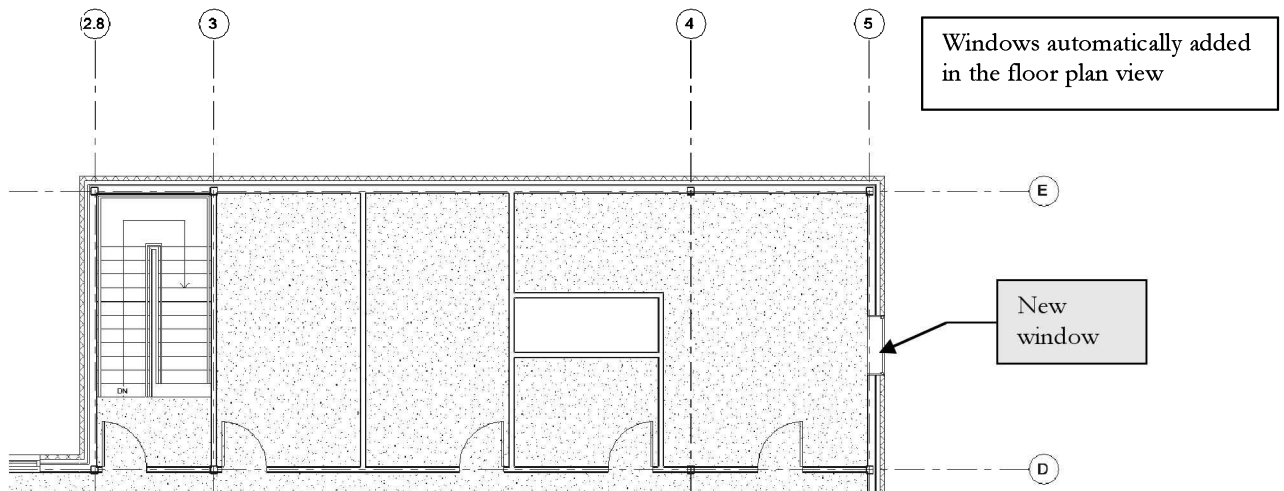

FIGURE 10-1.12 Window automatically added to the plan view
23. Switch to the **Level 2 Architectural Plan** view and zoom in on the Northeastern area (Figure 10-1.12).